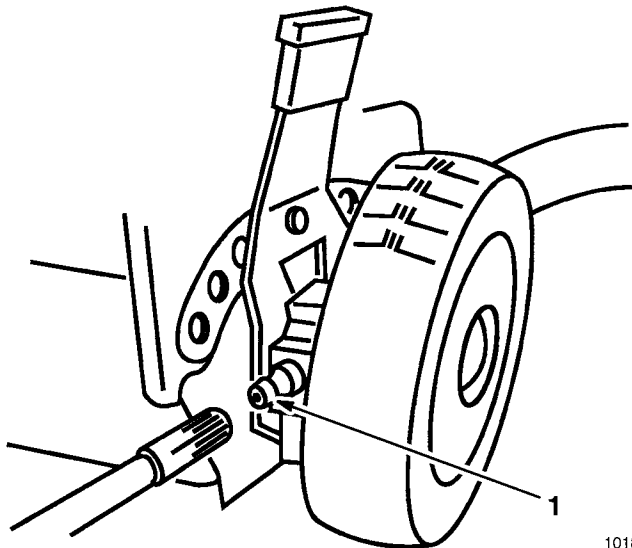

Figure 29
1. Wipe grease fittings on rear height-of-cut adjusters (Fig. 29) with clean rag.